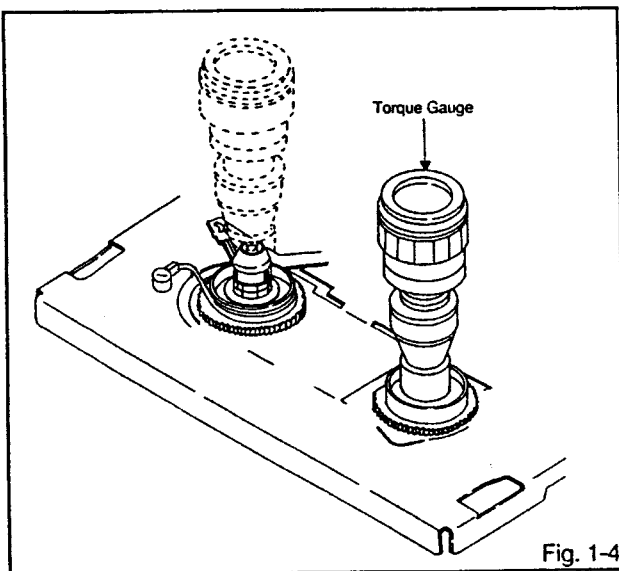

Fig. 1-4
1. Set torque gauge (JG002G) on take-up reel disk, and place unit in FAST FORWARD mode. (Refer to Fig. 1-4)
2. Set torque gauge (JG002G) on supply reel disk, and place the unit in REWIND mode. (Refer to Fig 1-4).
(Take-Up Reel Brake) (Refer to Fig. 1-4)
(Supply Reel Brake) (Refer to Fig. 1-4)